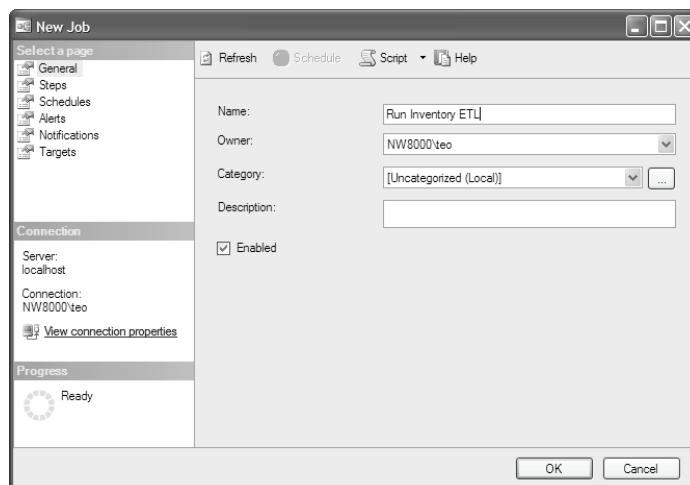

Figure 15.11 Use the SQL Server Agent to schedule and execute tasks in an unattended mode.
3. Name the new job **Run Inventory ETL** (Figure 15.11).